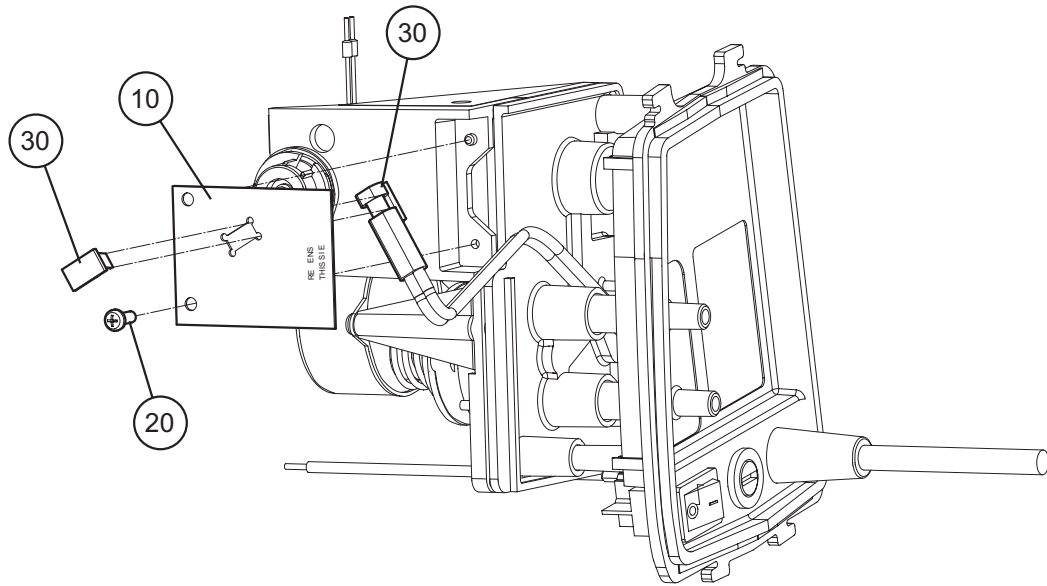

Figure 17 - Replacing the Neon Indicator Light
- 32.3 Release the screw (Fig 17, Item 20) attaching the neon mounting plate (Fig 17, Item 10) and remove the neon (Fig 17, Item 30) and mounting plate assembly.
- 32.4 Note the orientation of the components, unclip the neon (Fig 17, Item 30) from the lens and push the lens out of the mounting plate.